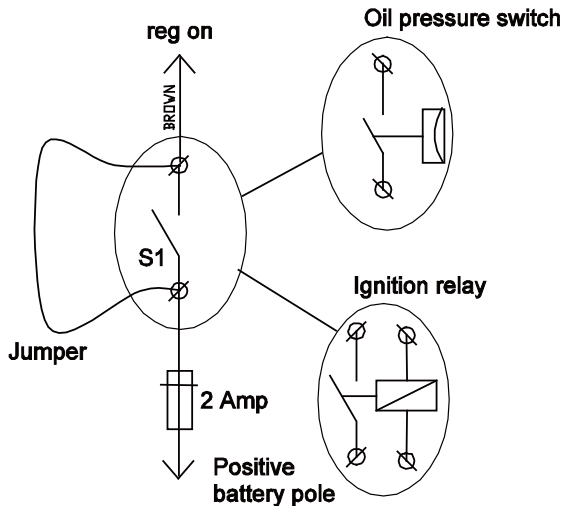

Figure 14: Jumper across switch S1
- 2 Energize the [reg on] terminal by either turning on the ignition switch (DO NOT START THE ENGINE) or by putting a jumper across switch S1 (see Figure 14). Check whether the 3 yellow LEDs start to blink. After approx. 10 seconds the yellow bulk led will illuminate.